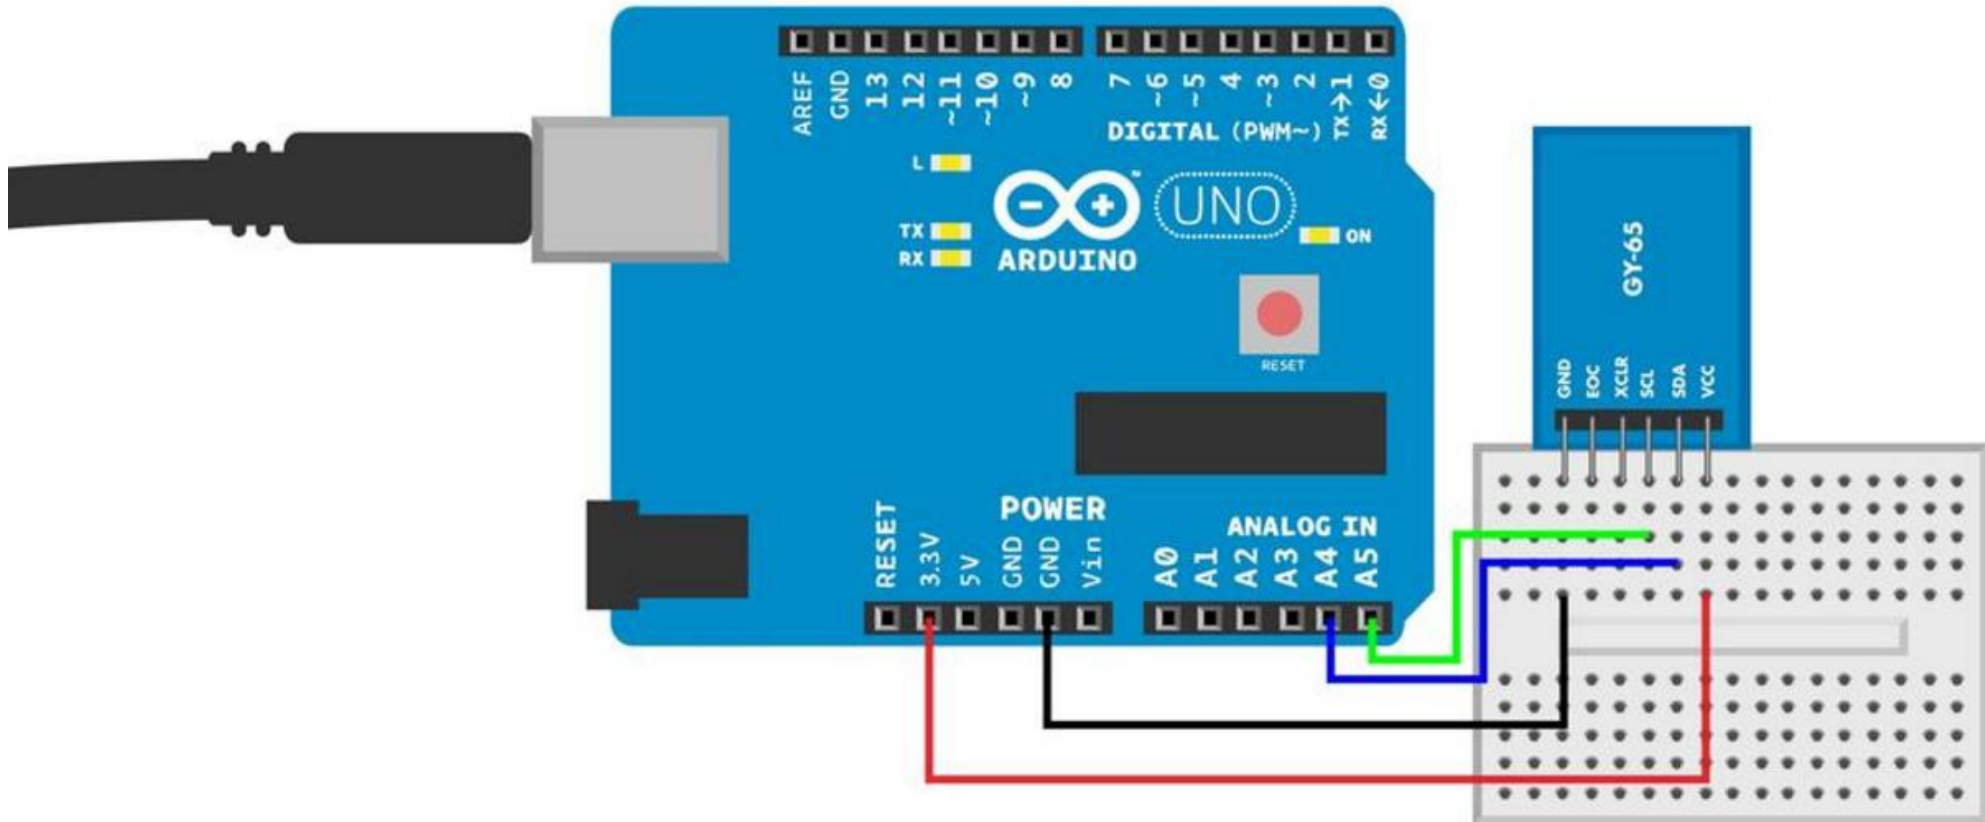

Figure 12-10. GY65 atmospheric pressure sensor connected to Arduino
- Figure 12-10 shows the connection diagram for Arduino. Hook it up as shown, and then run the code shown in Example 12-5.